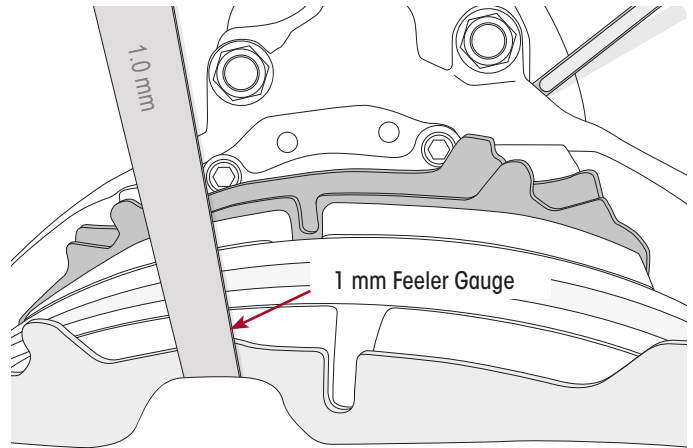

Figure 139: Use Spanner to Set Clearance
- 9a. , HTD-377, HTD-430 and MAXX22T HTD-415 callipers have one central tappet. Adjust brake pad clearance to 1 mm (0.040") using a long feeler gauge in the centre of the pad, between the outboard side of the calliper and the back of the brake pad. After completing adjustment, remove feeler gauge and rotate wheel hub to ensure it spins freely without any brake drag. Refer Figure 139.